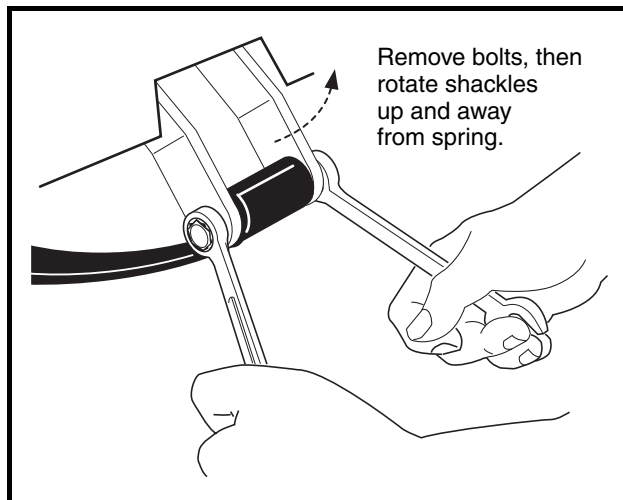

Figure 18-22 Rear Shackles
8. Raise vehicle just enough to relieve tension from leaf springs, then remove the bolts securing the leaf springs to the shackles (**Figure 18-22, Page 18-10**).